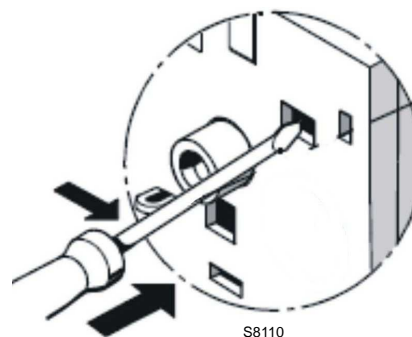

Fig. 40
- **Contact test NC (95-96) and NO (97-98)(Fig. 40)**